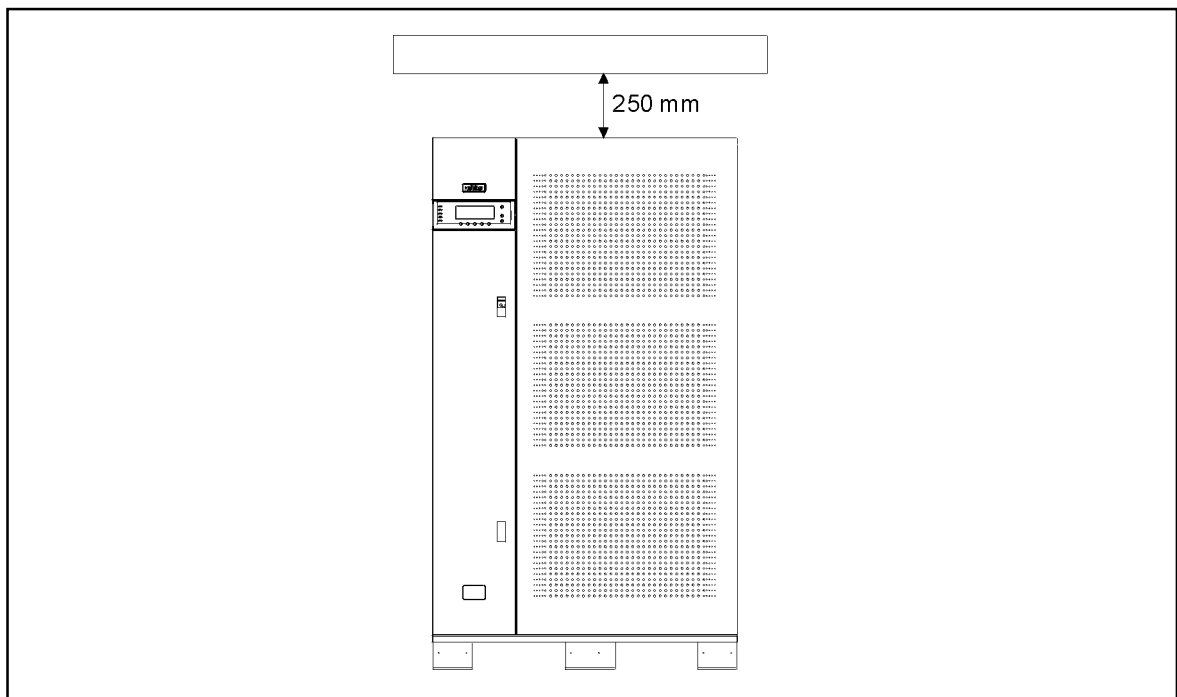

Figure 4. Ventilation and space requirements for 80 - 130 kVA UPS.
- The UPS can be mounted against wall because the cooling air outlet locate on top of the UPS as standard. No space is required in rear or sides of the UPS. Always leave 250 mm free space above the UPS. Always leave enough space in front of the UPS (minimum 1 meter) for service and maintenance. See figure 4.